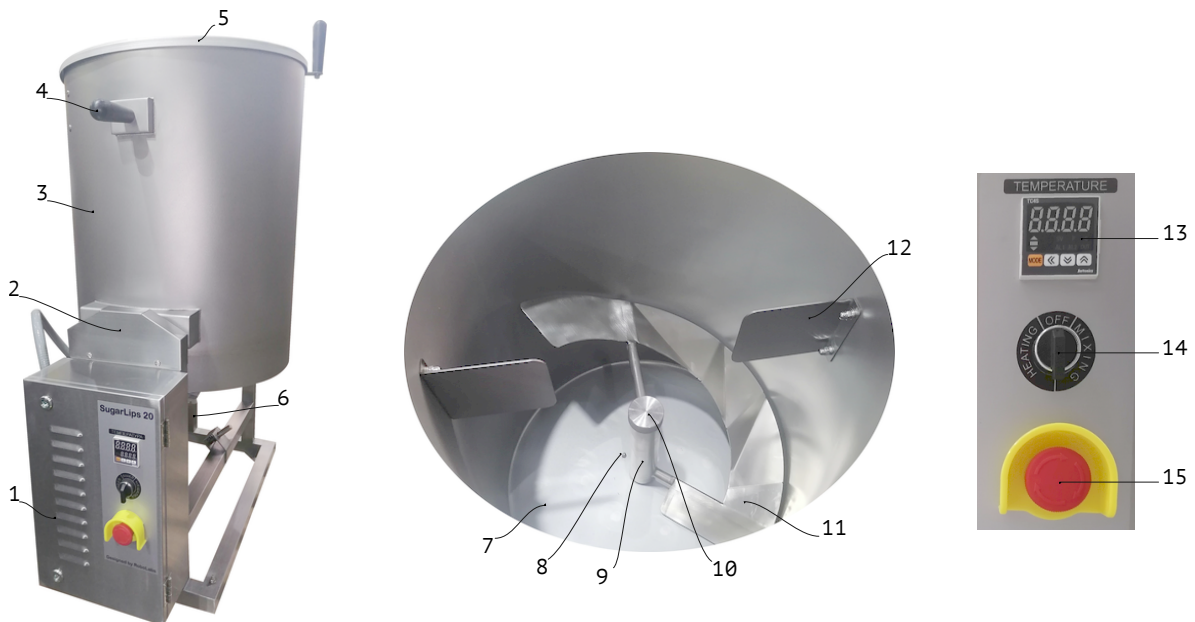

Figure 1
Main components of the machine are shown on Fig. 1:
8. Put two deflectors (Fig. 1, pos. 12) from inside the kettle, fix them with M6 screws, washers and cap nuts from the delivery set.